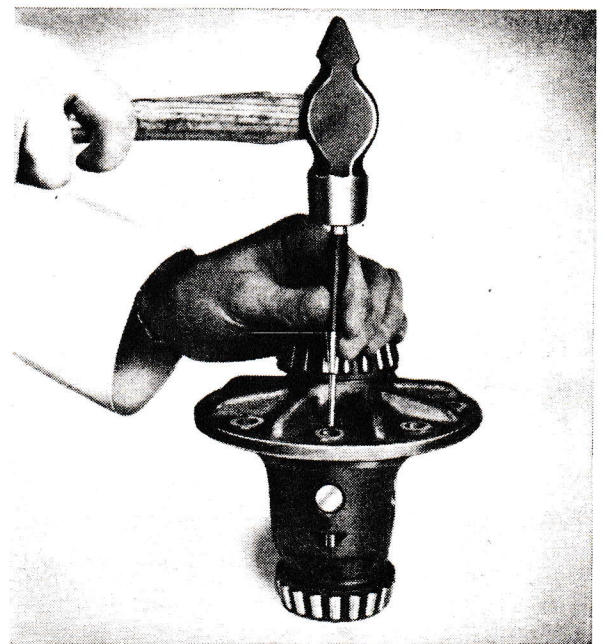

Fig. 14. Removing the lock pin.
1. Loosen the bolts and remove the ring gear (9).
2. Drive out the lock pin (7), see Fig. 14 and then the shaft (10) for the differential gear.